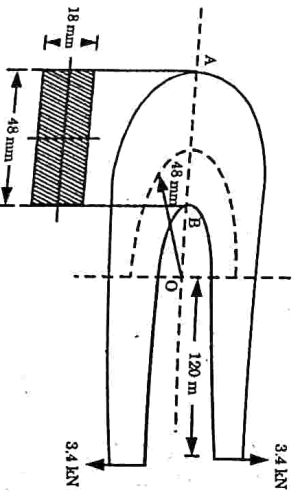

Fig. 6.
5. Fig. 6 shows a frame subjected to a load of 3.4 kN. Find the resultant stress at A and B.